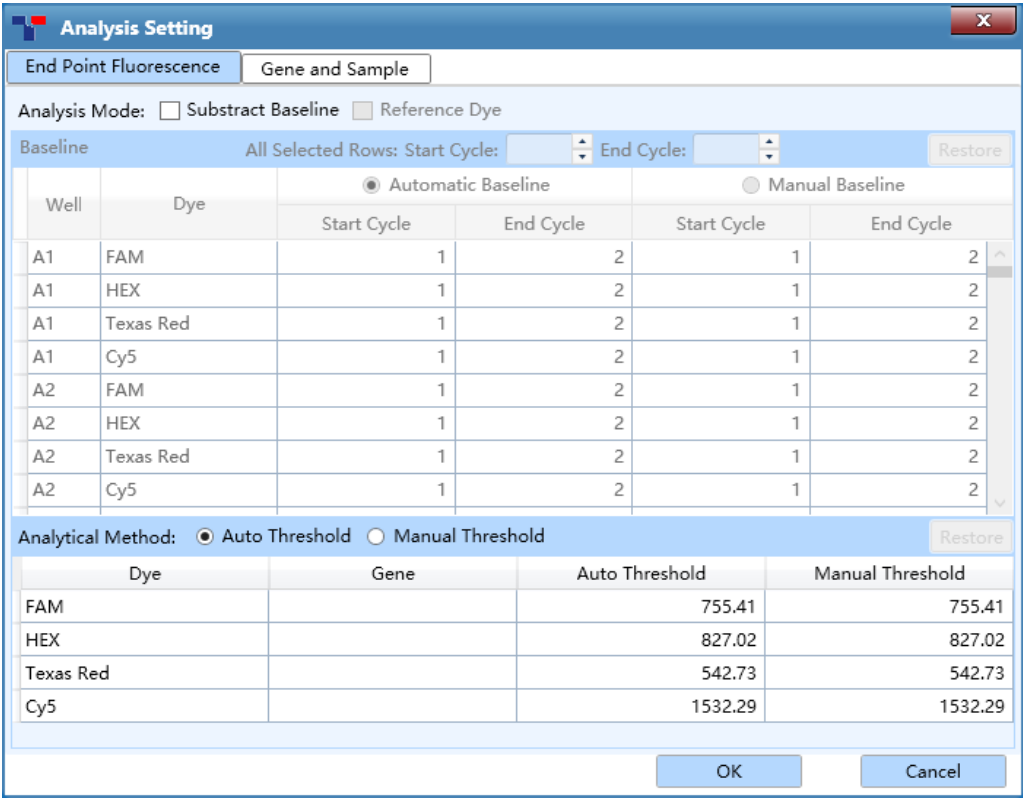

Figure D-19. End Point Fluorescence Analysis Setting interface - End Point Fluorescence tab
I. **End Point Fluorescence** tab: as shown in figure D-19.